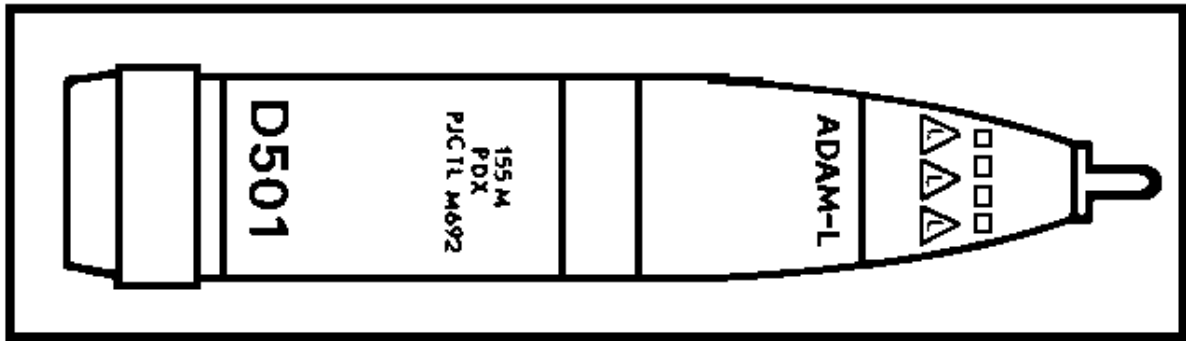

Figure 16. M692 projectile.
(8) Projectile, 155-mm, HE, M692. This projectile is known as the area denial artillery munition (ADAM). The most significant markings are the row of yellow triangles with the letter L in them and the letters ADAM-L between the nose and bourrelet. The letter L indicates a long self-destruct time for the submunitions. These submunitions are antipersonnel mines to deny the enemy free use of certain areas for a period of time. This is a base-ejection type projectile and uses the M577 time fuze (Figure 16).